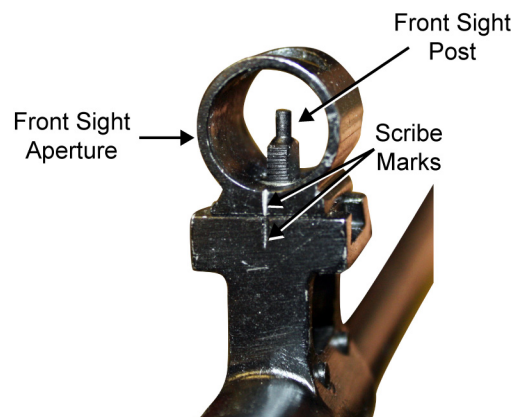

Figure 31. Front Sight Assembly.
14. Install the front sight aperture by tapping with a rawhide mallet from right to left. Ensure the scribe marks on the front sight aperture and flash suppressor are properly aligned. Refer to Figure 31.
15. Install the front sight post in the front sight aperture by screwing clockwise. Refer to Figure 31.